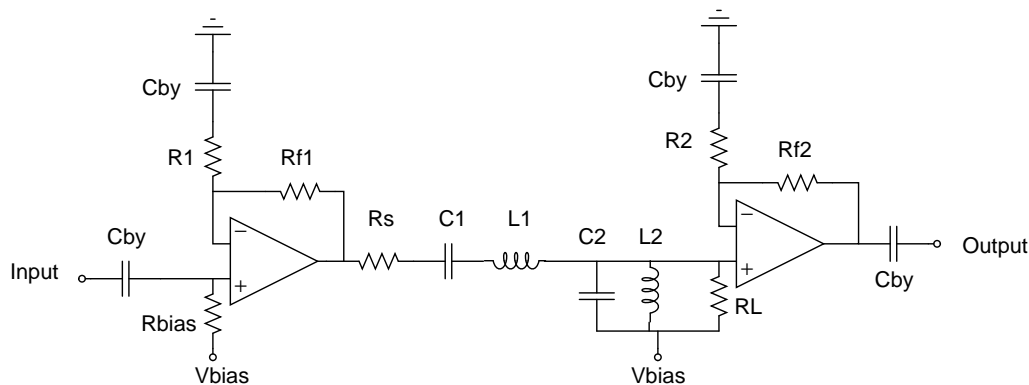

Figure 5: Adding your second stage on after the filter
- **Soldering Tips:** When soldering the second op-amp on your op-amp chip, note that you will now need to add the correct R_i to the output of the passive filter. However, you can remove the BFC that you used in the previous section. Also, you should implement R_{f2} with a potentiometer so that you can tune the gain as necessary. Please refer to Figure 5 for further clarification.